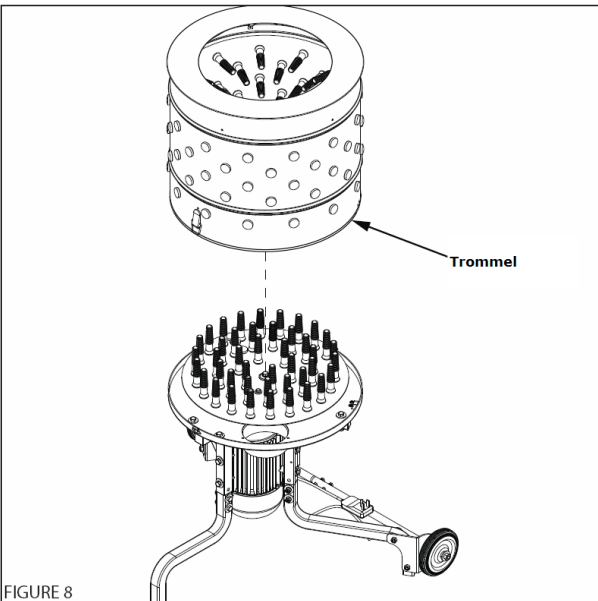

FIGURE 8
- Place the drum on the machine (**FIGURE 8**).